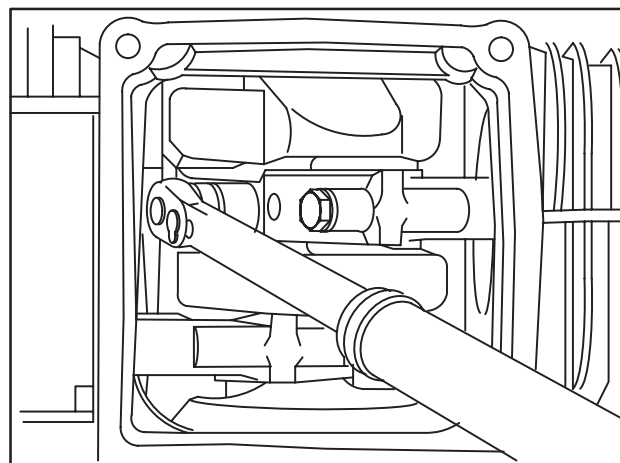

Fig. 9 – Torque Connecting Rods
1. Torque connecting rod screws 190 in. lbs. (21.5 Nm), Fig. 9.
2. Rotate crankshaft two (2) revolutions to check for binding.
NOTE: Failure to use a torque wrench can result in loose connecting rods causing breakage, or tight connecting rods causing scoring, Fig. 9.